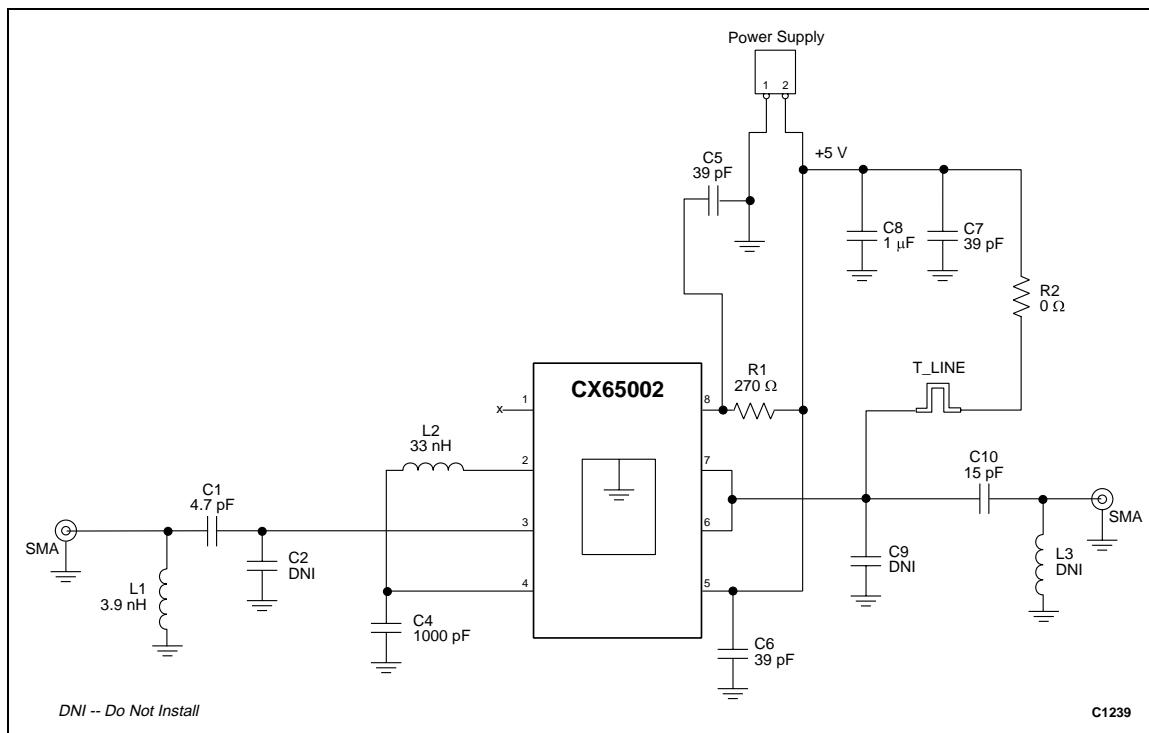
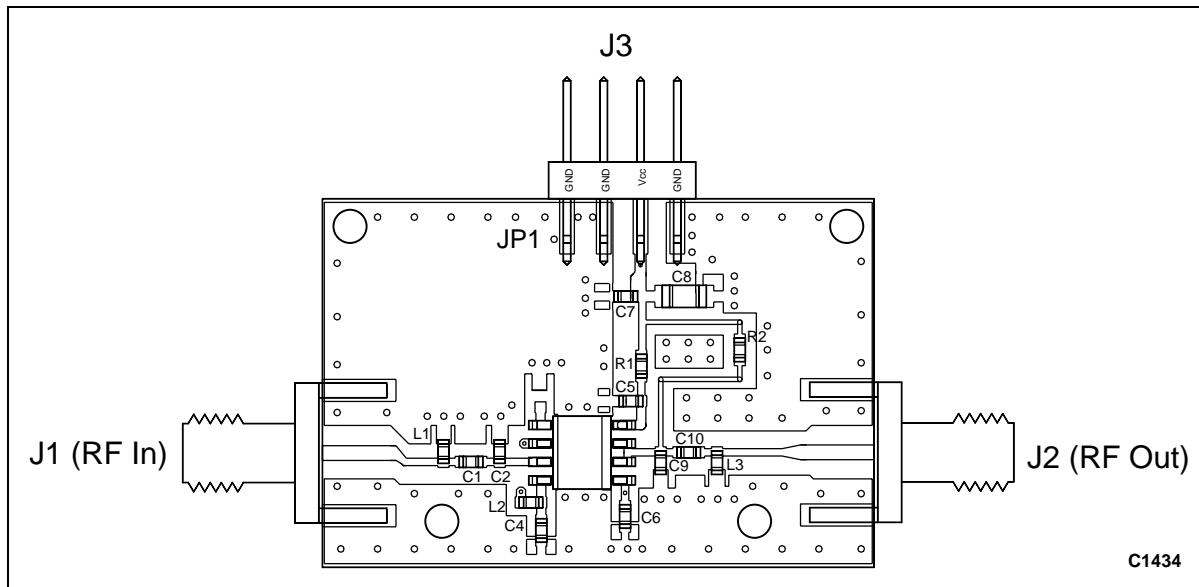
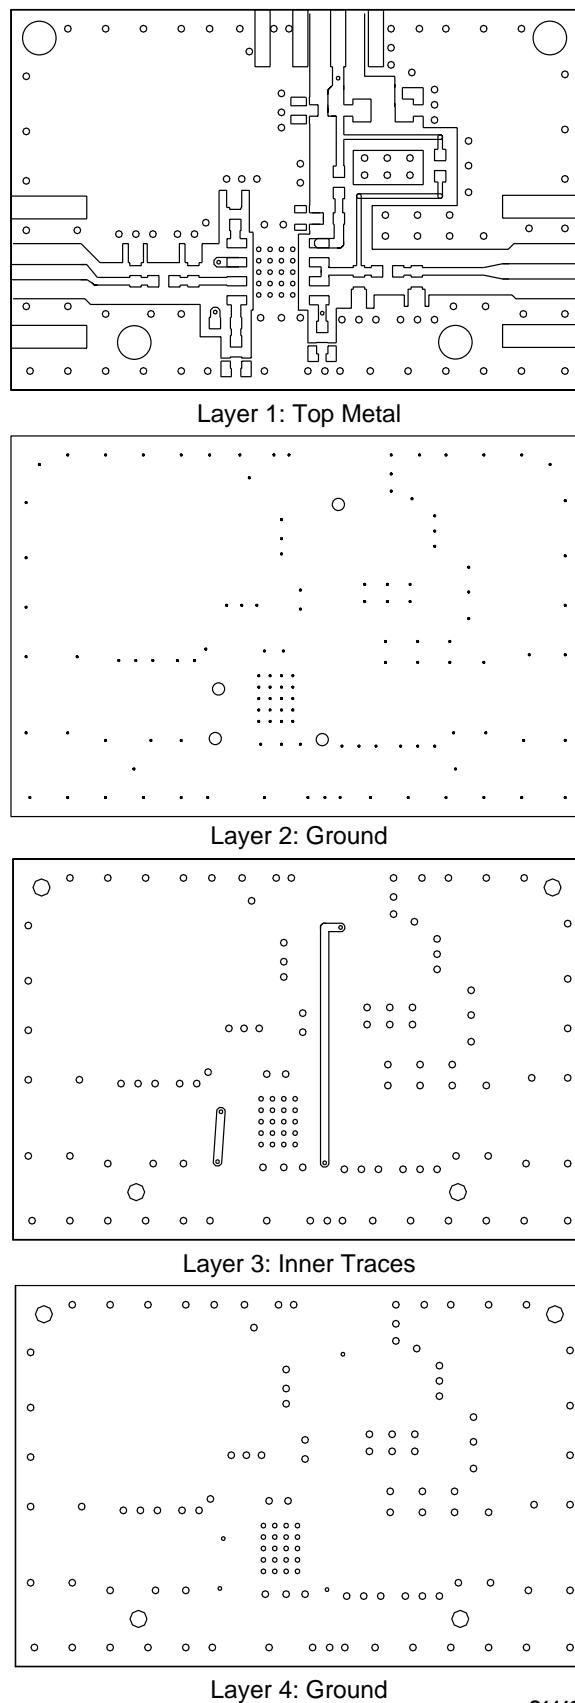
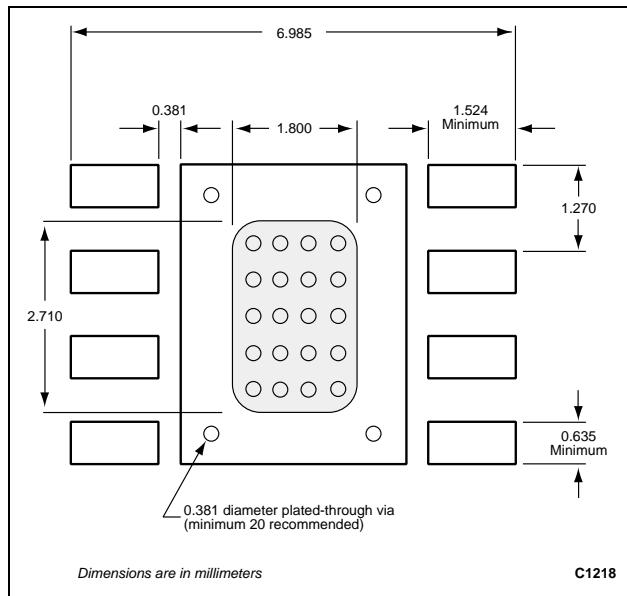

Figure 13. Application Schematic Optimized for OIP3 @ 900 MHz
Figure 15. Evaluation Board Assembly Diagram
Figure 16. Evaluation Board Layer Detail
Figure 17. PCB Mounting Footprint
**Note 1:** Device matched for optimum OIP3 according to circuit shown in Figure 13.
The CX65002 Evaluation Board is used to test the CX65002 power amplifier's performance. The CX65002 Evaluation Board schematic diagrams are shown in Figures 13 and 14 (optimized for OIP3 and ACPR, respectively). The Evaluation Board assembly diagram is shown in Figure 15 and the Evaluation Board layer detail is shown in Figure 16. Figure 17 provides the mounting footprint for the CX65002.
The following design considerations (refer to Figure 13) need to be followed regardless of final use or configuration:
2. The ground pad of the CX65002 power amplifier has special electrical and thermal grounding requirements. This pad is the main thermal conduit for heat dissipation. Since the circuit board acts as the heat sink, it must shunt as much heat as possible from the amplifier. As such, design the connection to the ground pad to dissipate the maximum wattage produced to the circuit board. Multiple vias to the grounding layer are required (see Figures 16 and 17).